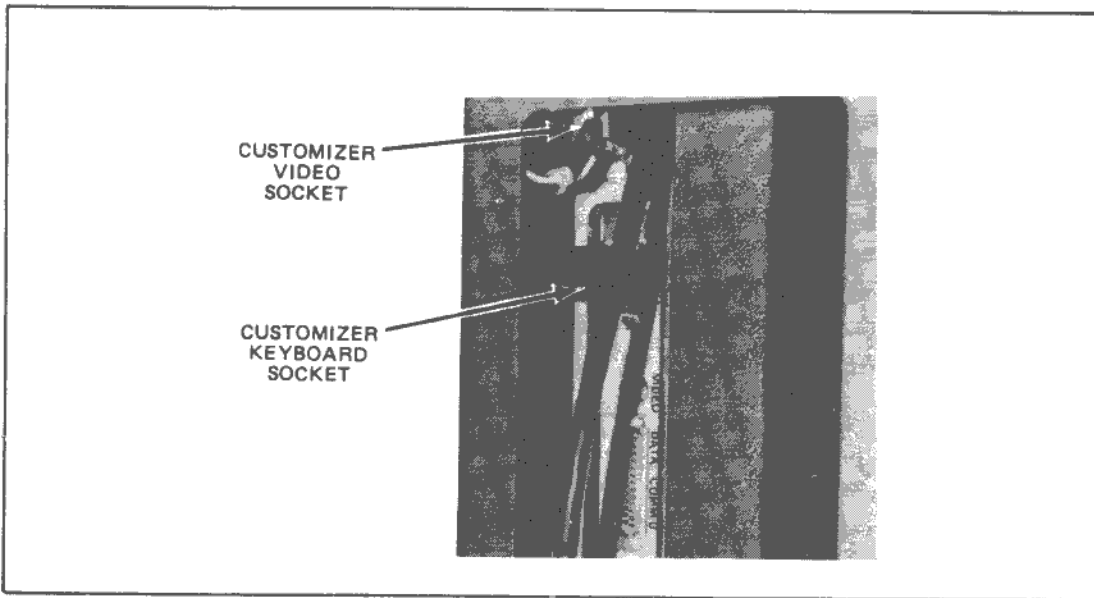

Figure 3-15. Customizer Video and Keyboard Connections
2. Remove the retaining screws that secure the Display Screen Connector and disconnect the connector from the Customizer Video Socket. A circular aperture is provided to assist removal of the top retaining screw (refer to figure 3-15).
4. Remove the terminator retaining screws and release the terminator from the Customizer Keyboard Socket. (Refer to figure 3-15).